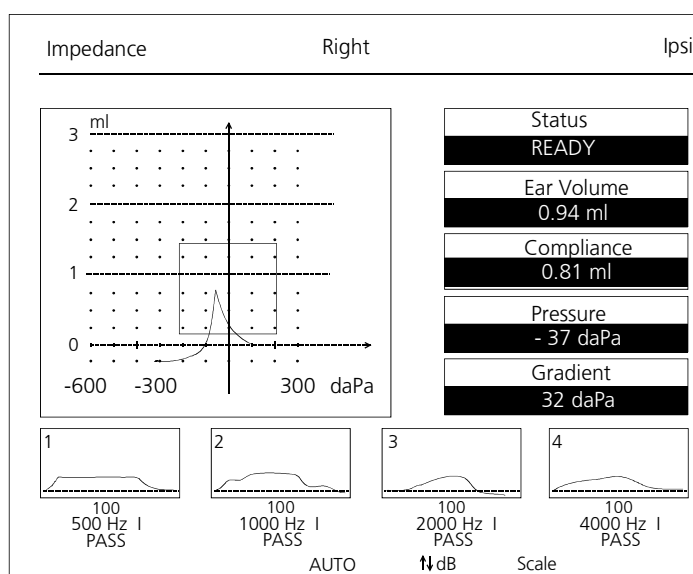

Figure 21 Example of a normal Tympanogram with ipsilateral reflex results
The Stapedius reflex is measured after the measurement of the Tympanogram. During the measurement of the Stapedius reflex the change of the compliance is represented in real time on the LCD display ⑤. When the test is finished the curves for the changes of compliance for 500 Hz, 1000 Hz, 2000 Hz and 4000 Hz are shown in four separate graphs at the bottom of the measurement screen (see Figure 21). Below each curve you see the test level where a Stapedius reflex was registered automatically. This is indicated by a "PASS" below the frequency. If no reflex was detected, a "FAIL" is reported and the maximum level is shown.